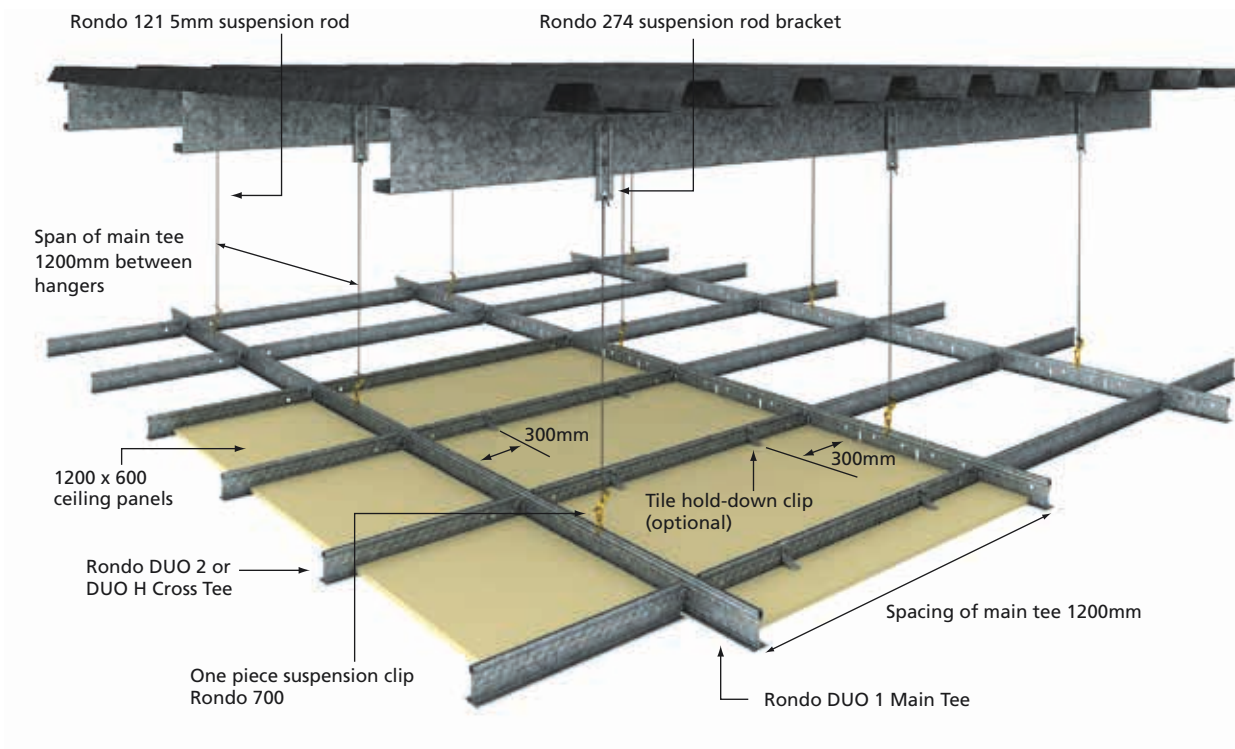

FIGURE 2: TWO-WAY EXPOSED CEILING SYSTEM DETAIL
4. Fix the Main Tee suspension brackets as per Figures 2 & 6. Ensure the suspension brackets are installed at no more than 1200mm centres and spaced 1200mm on either side. Ensure the hanger points are set out so that hangers adjacent to the perimeter walls are no more than 300mm from the wall unless otherwise specified.